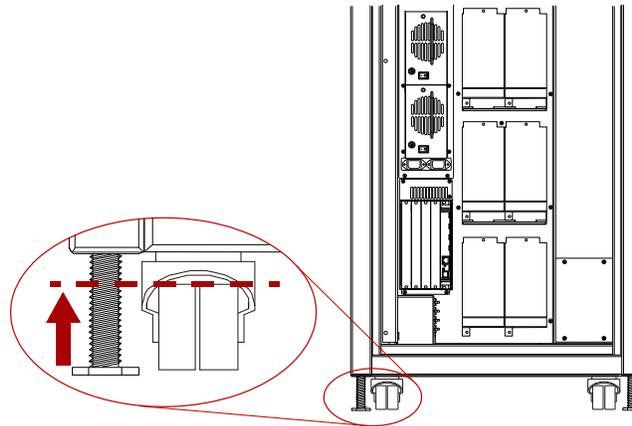

Figure B-5: NEO 8000e Casters and Leveling Legs
4. Verify that all four **leveling legs** are above the **wheel tops** (Figure B-5).
- Use the adjustable wrench to lower the two **leveling legs** (Figure B-5) until they are tight against the pallet.
- a. Use the adjustable wrench to lower the two **leveling legs** (Figure B-5) until they are tight against the pallet.